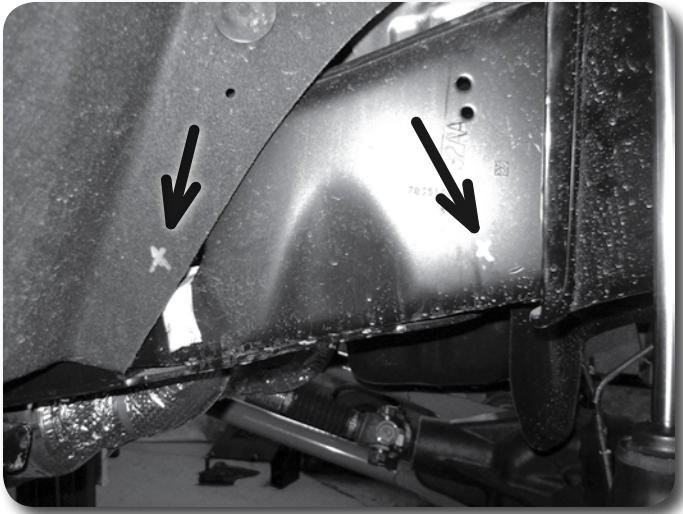

Figure 15A
30. The ABS lines need to be rerouted along the frame. Make a mark on the frame approximately 1-1/2" behind the coil bucket and 1-1/2" from the bottom of the frame. Drill a 7/32" hole at the mark. Drill a second 7/32" hole in the inner fender liner, straight back from the first hole location. **Figure 15A**